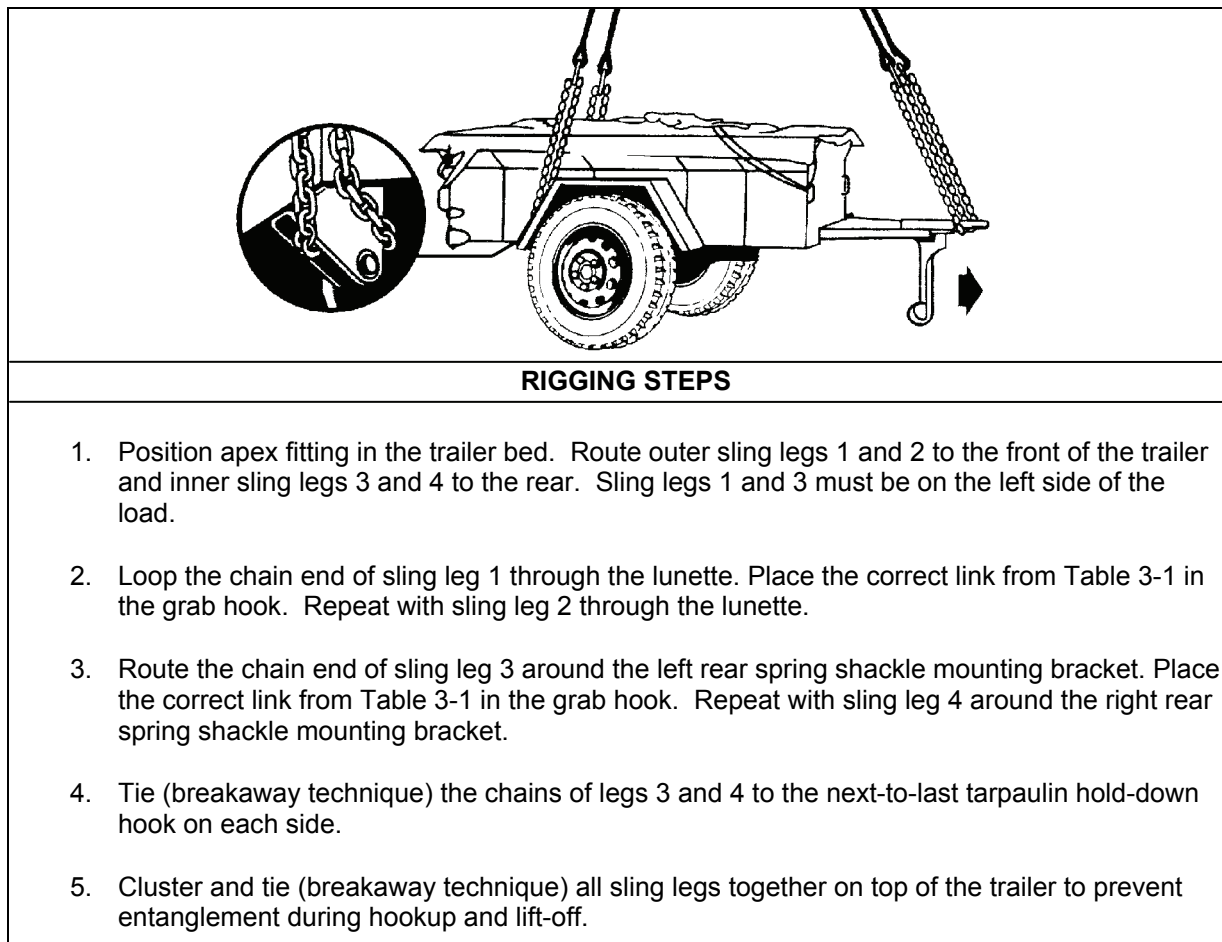

Figure 3-1. M416 1/4-Ton Trailer
- **Rigging.** Rig the load according to the steps in Figure 3-1.